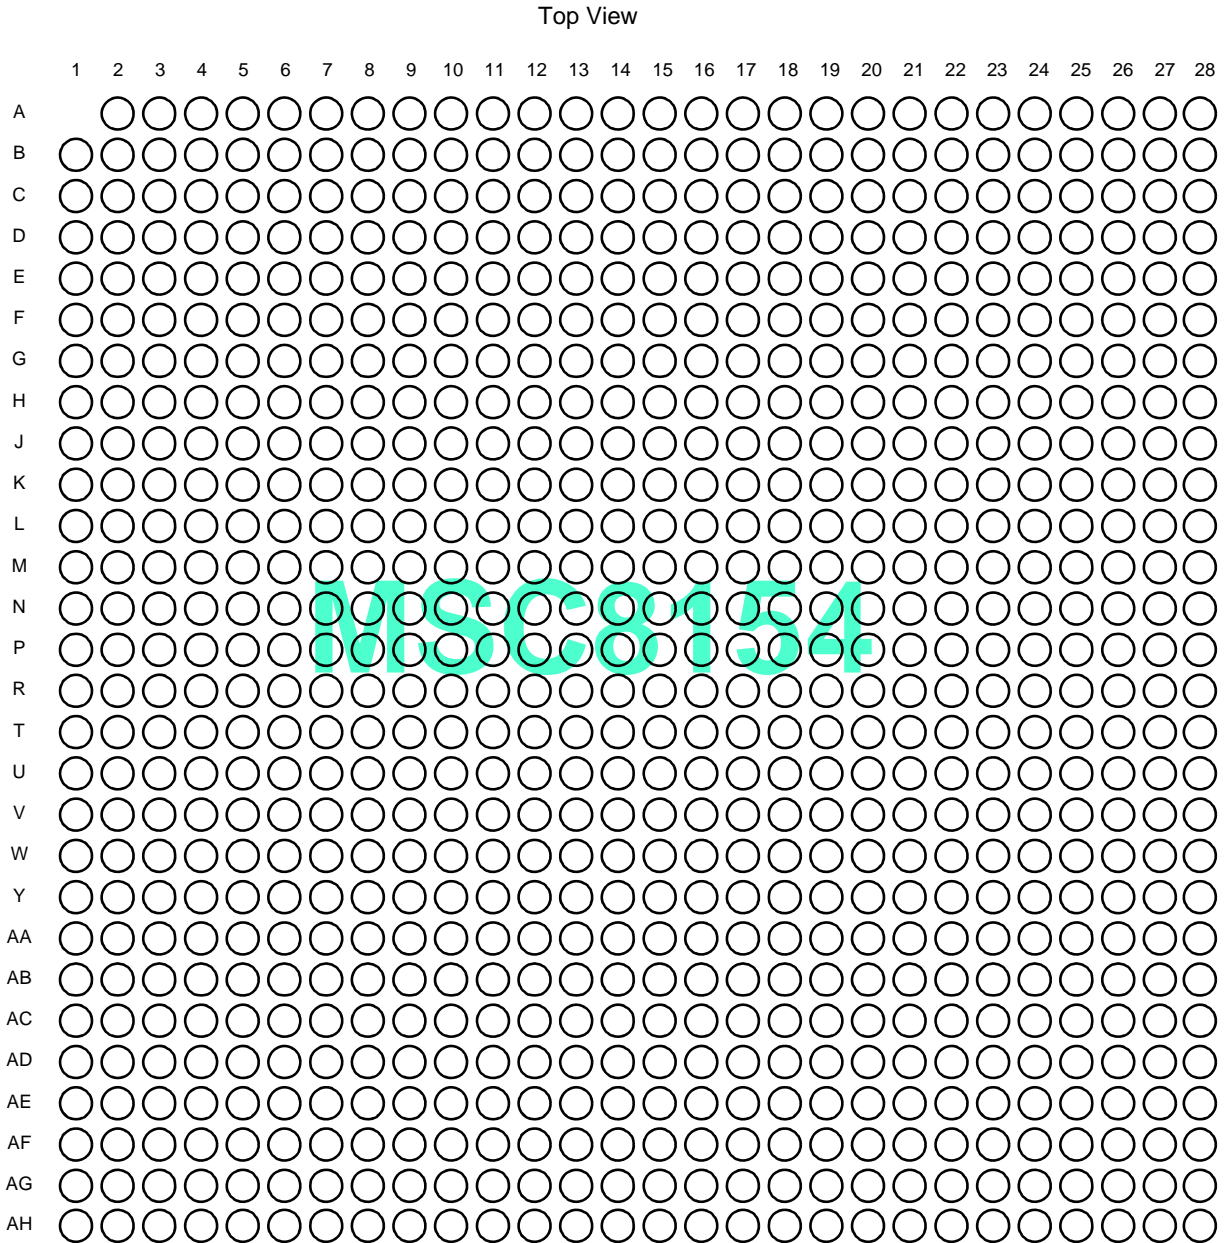

Figure 3. MSC8152 FC-PBGA Package, Top View
- Figure 3. MSC8152 FC-PBGA Package, Top View 4
The top view of the FC-PBGA package is shown in Figure 3 with the ball location index numbers.